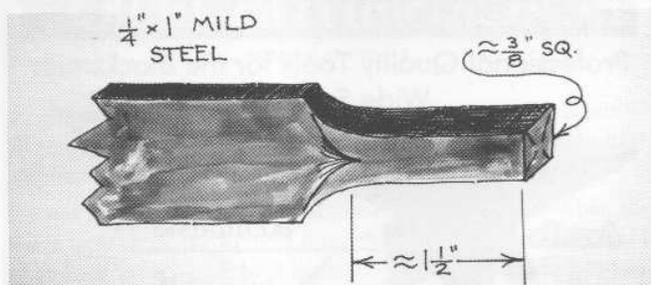

Figure 2.
*Introduction:* Forging two-sided shoulders on the far edge of the anvil is challenging. Where the hammer is being placed on the work is often obscured by the hammer head itself and one must hold the bar at an increasing angle to the anvil face as the shouldering progresses. Figure 2 below shows the desired final form: an approximate square of material centered on a tapered "neck." While the sketch below includes suggested dimensions, as in the previous exercise, controlling the form is more important than meeting a set of prescribed measurements.